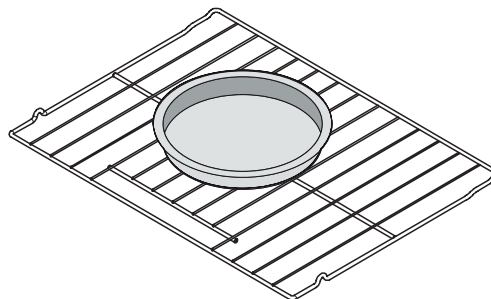

Figure 12: Suggested pan placement
- Place the food as shown in Figure 12.